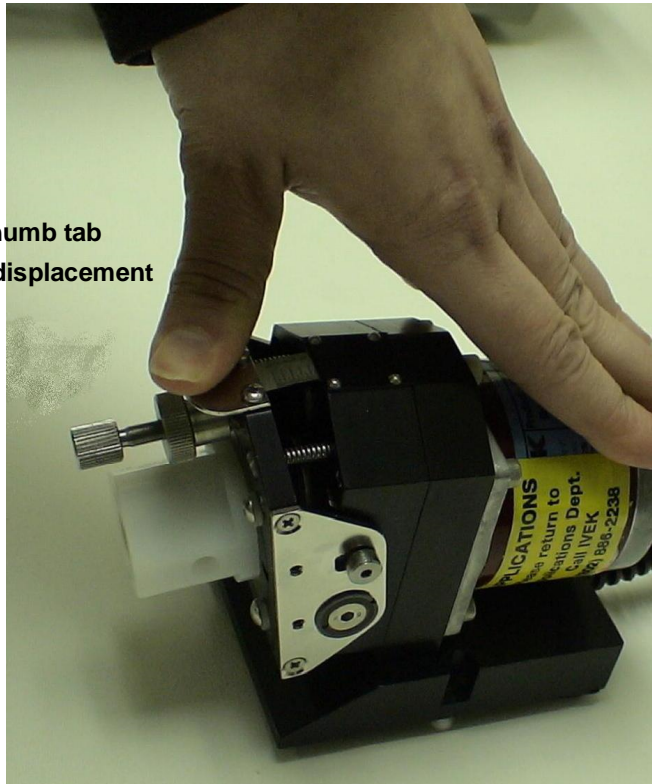

Figure 5.3 Thumb Tab Adjustment
1. Press down on the thumb tab (4) (Refer to Figure 5.3) to tilt the displacement adjustment mechanism (1) into its maximum displacement position.
2. While holding displacement adjustment mechanism (1) in its maximum displacement position, run the system in Prime mode.